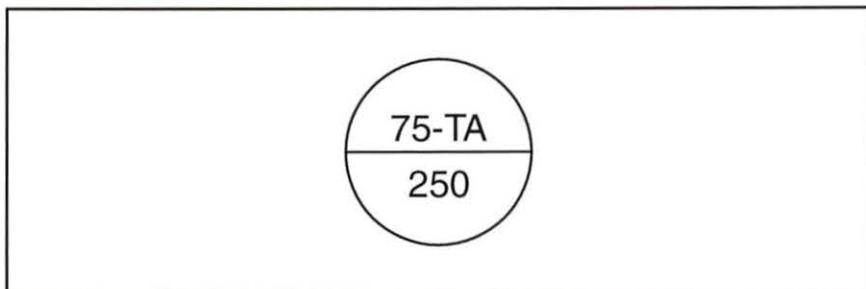

Figure 82. Instrument Tag
9. Perform the following substeps to interpret the information on the instrument tag in figure 82.
- A. Determine the type of device indicated by the tag in figure 82.
- B. Determine where the device indicated by the tag in figure 82 is located.
- C. Determine what the device indicated by the tag in figure 82 is measuring.
- D. Determine the first modifier of the tag in figure 82.
- E. Determine the loop in which the device is located, according to the tag in figure 82.
- F. Determine the area in which the device is located, according to the tag in figure 82.
You should find that the device tag in figure 82 represents a field discrete instrument, mounted in a primary location. You should also find that the device is measuring temperature and that the modifier indicates an alarm function. Finally, the device is located in loop 250 and area 75.